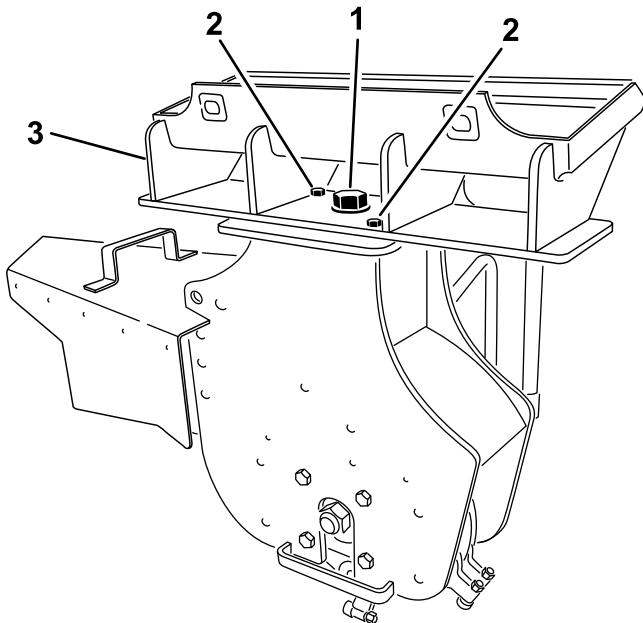

Figure 12
3. Remove the large bolt (1 x 2-1/4 inches), washer, nut (1 inch), 2 small bolts (1/2 x 1-1/2 inches), and 2 nuts (1/2 inch) securing the quick-attach assembly to the stump grinder (Figure 12). Remove the assembly.